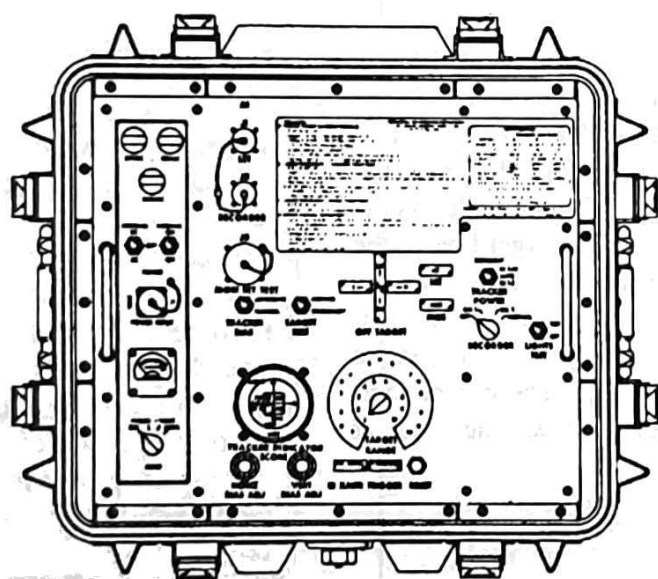

Figure 6-6. Monitoring set control panel.
(2) The control panel has a mounting for the monitoring set controls, indicators, lights, and connectors. (See Figure 6-6.) The J connectors are on the control panel to provide connection points.